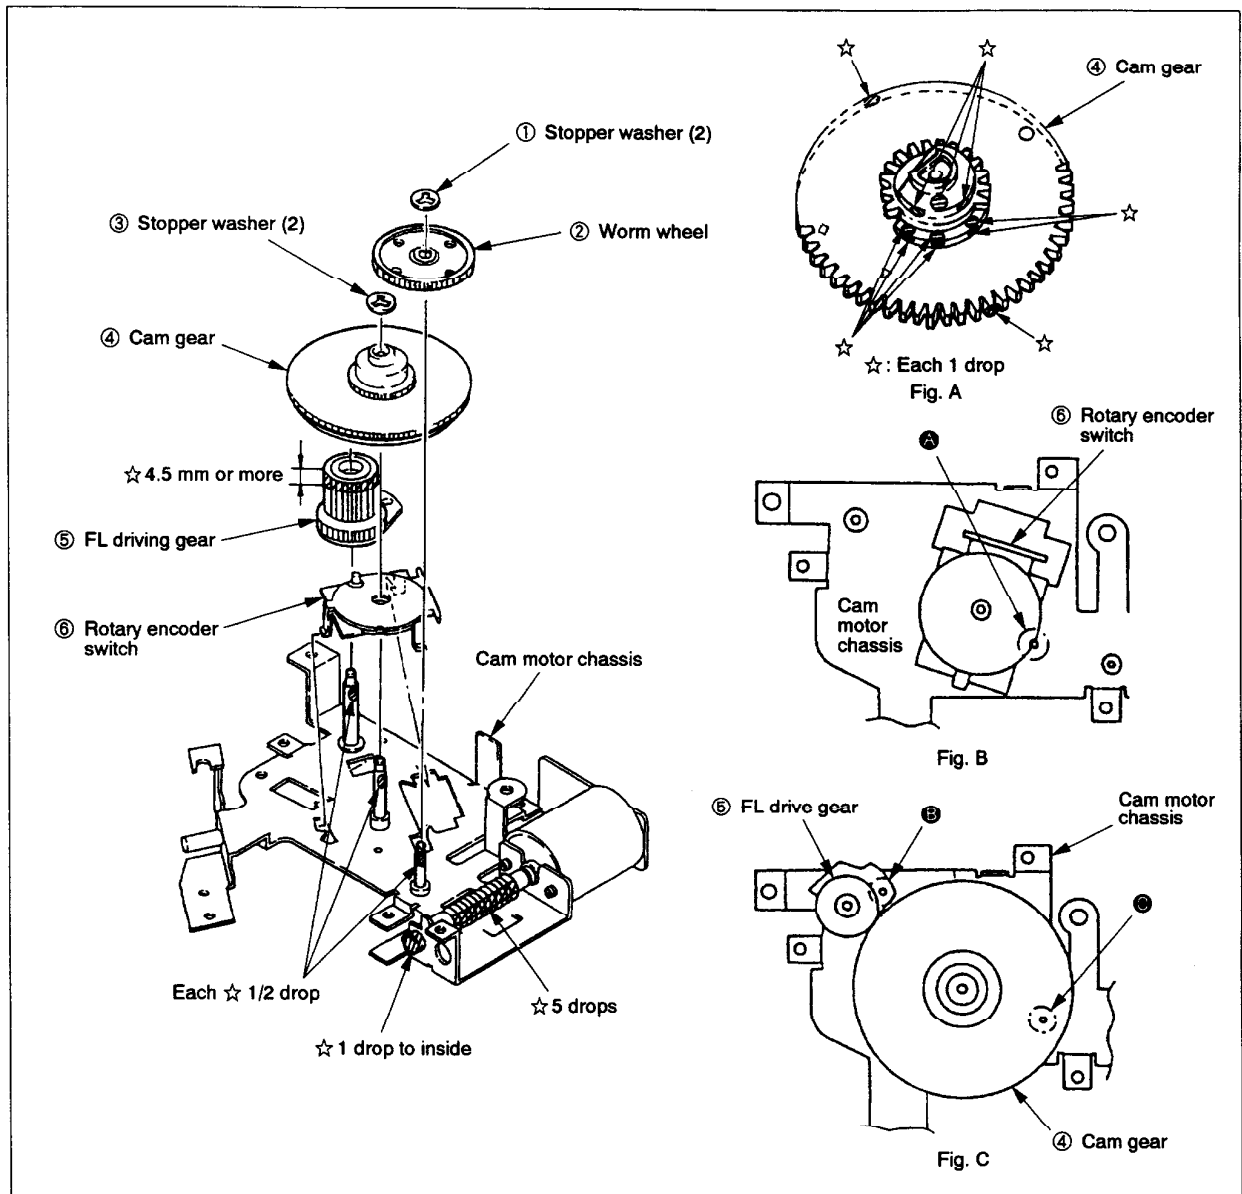

Fig. 3-19
3-17. ROTARY ENCODER SWITCH (Fig. 3-19)
- Apply FLOIL SG-055G (Jig Ref. No. J-12) to ☆ marked portions. (Fig. 3-19, A)
- Adjust the hole ② to the hole on cam motor chassis. (Fig. B)
- Adjust the holes ③ and ④ to the hole on cam motor chassis. (Fig. C)